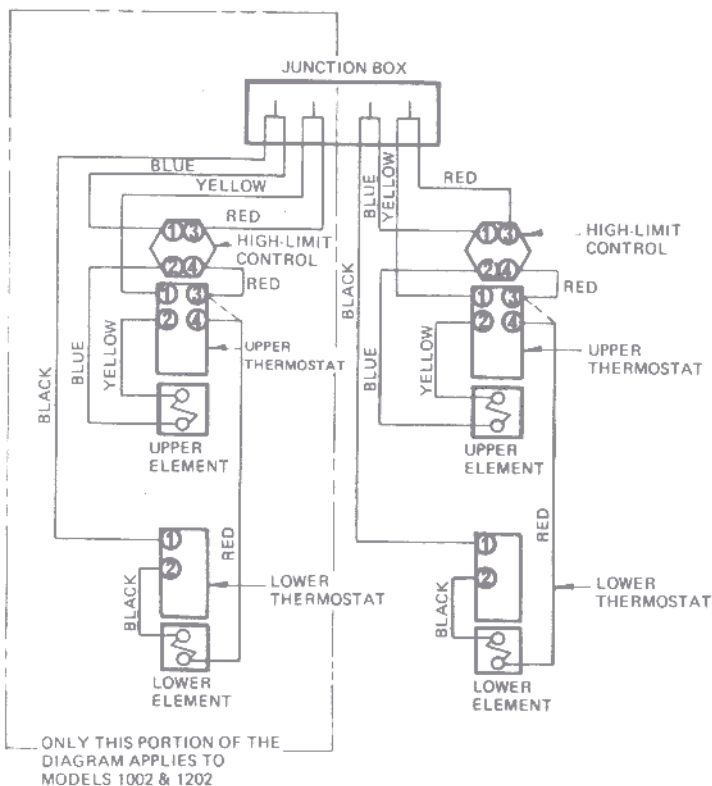

FIG. 8
- All heaters listed in this manual are shipped from the factory wired for simultaneous operation, with the exception of models 1002, 1202, & 1204 which are wired for flip-flop operation. With the flip-flop method of wiring, only one element or group of elements can be on at a time. Refer to wiring diagrams for details, and also how to change from simultaneous operation to flip-flop or vice versa. (Fig. 8, 9, 10, 11, 12, 13 & 14).